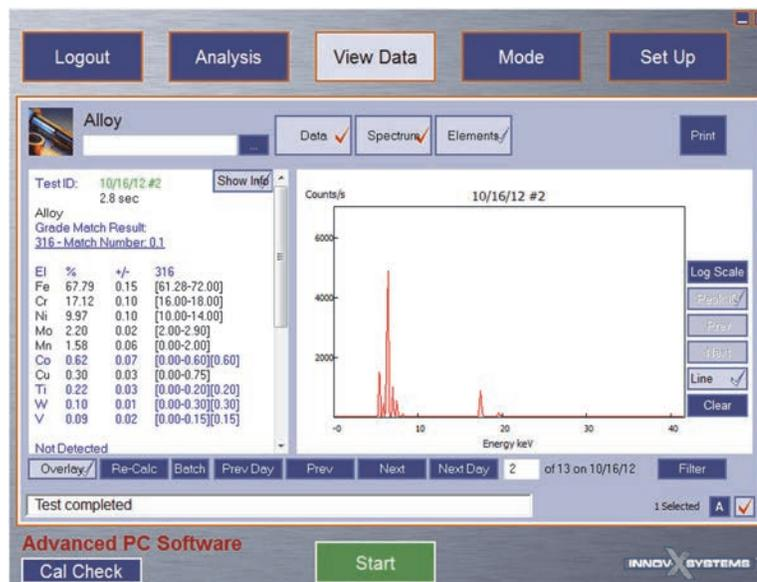

Figure 8-3 Current test record selected
- Click the check button () to include the result in the averaging group. The check turns red to confirm the test is included. The **nn Selected** indicator increases by one (see Figure 8-3 on page 107).